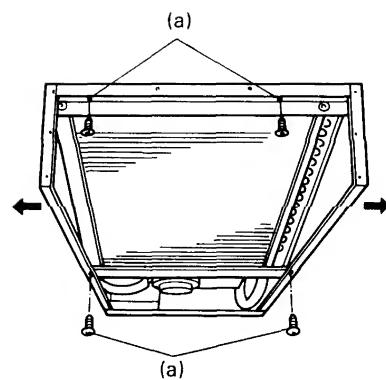

Fig. 8
- (1) Remove the front panel. See 9-2-(1) and (2) (Page 48)
- (2) Remove the top panel by unfastening ten screws.
- (3) Unfasten the four screws (a) to pull out the evaporator and drain pan. Slightly open the side panels as shown by the arrows at this time. (See Figure 8.)